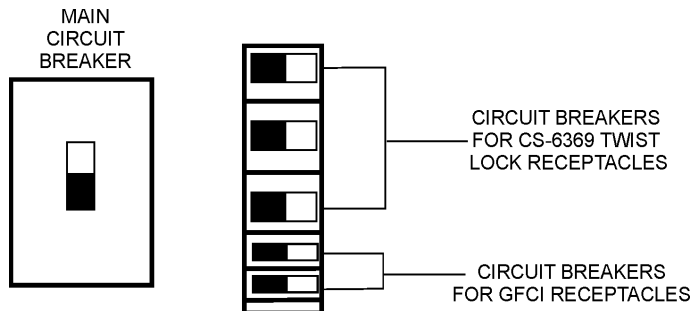

Figure 34. Main, Aux. and GFCI Circuit Breakers (OFF)
1. Place the **main**, **G.F.C.I.** and **aux.** circuit breakers (Figure 34) in the “**OFF**” position prior to starting the engine.